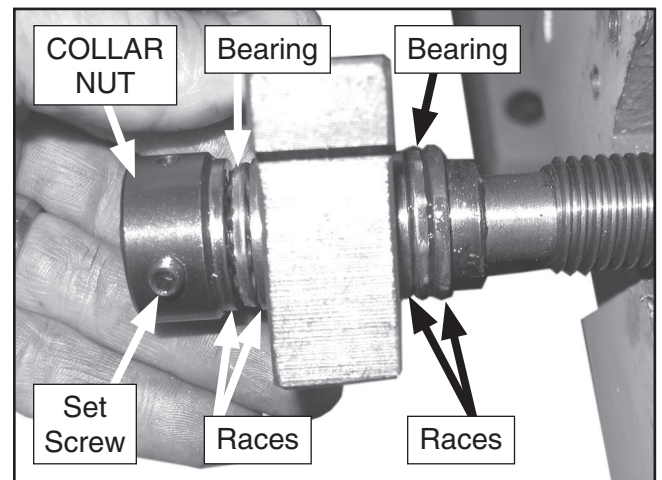

Figure 10. Slide block end-cap installation.
- Oil and install the bearings and races onto the lead screw in the order shown in **Figure 10**, finger-tighten the lead screw collar nut onto the lead screw until the bearings are slightly preloaded and the slide block end cap has no lash or end play.
- Using a 4mm hex wrench, tighten the set screw (**Figure 10**).